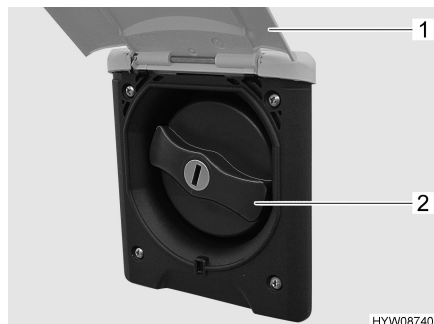

Fig. 71 Cap for the drinking water filler neck
- Swivel the external flap (Fig. 71,1) upwards.
- Turn the blue cap (Fig. 71,2) one quarter turn.